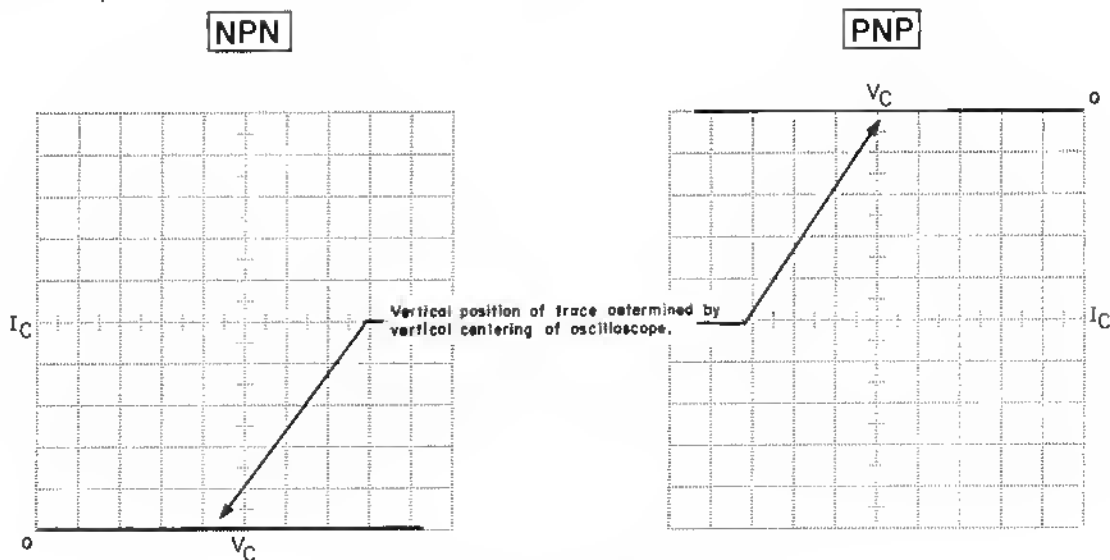

Figure 13. Open Transistor Curves
7. If the transistor is open, there will be a horizontal trace only, since no collector current will flow. (see Figure 13).